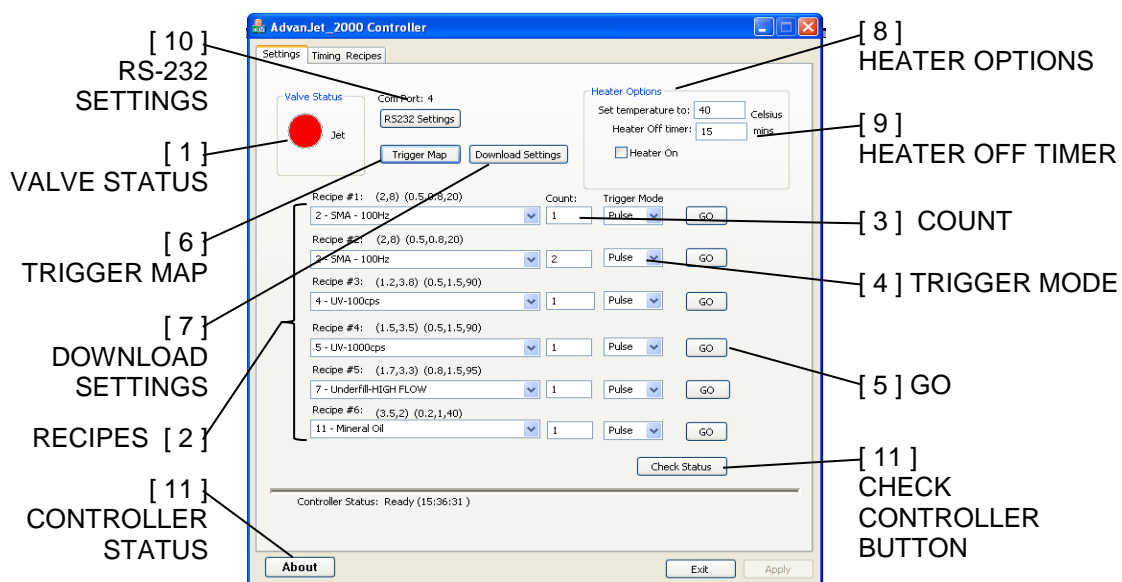

Figure 5-1: Advanjet Software Settings Menu
This section describes features 1 – 11 of the Advanjet Software Settings Menu as shown in Figure 5-1 on the previous page.
3. **Count:** The Count is the number of drops for the corresponding recipe. For example, to dispense a single drop of Recipe #1 SMA 100Hz (as shown in Figure 5-1), specify 1 in the Count. To dispense multiple drops, choose a number greater than one, as shown in Recipe #2.